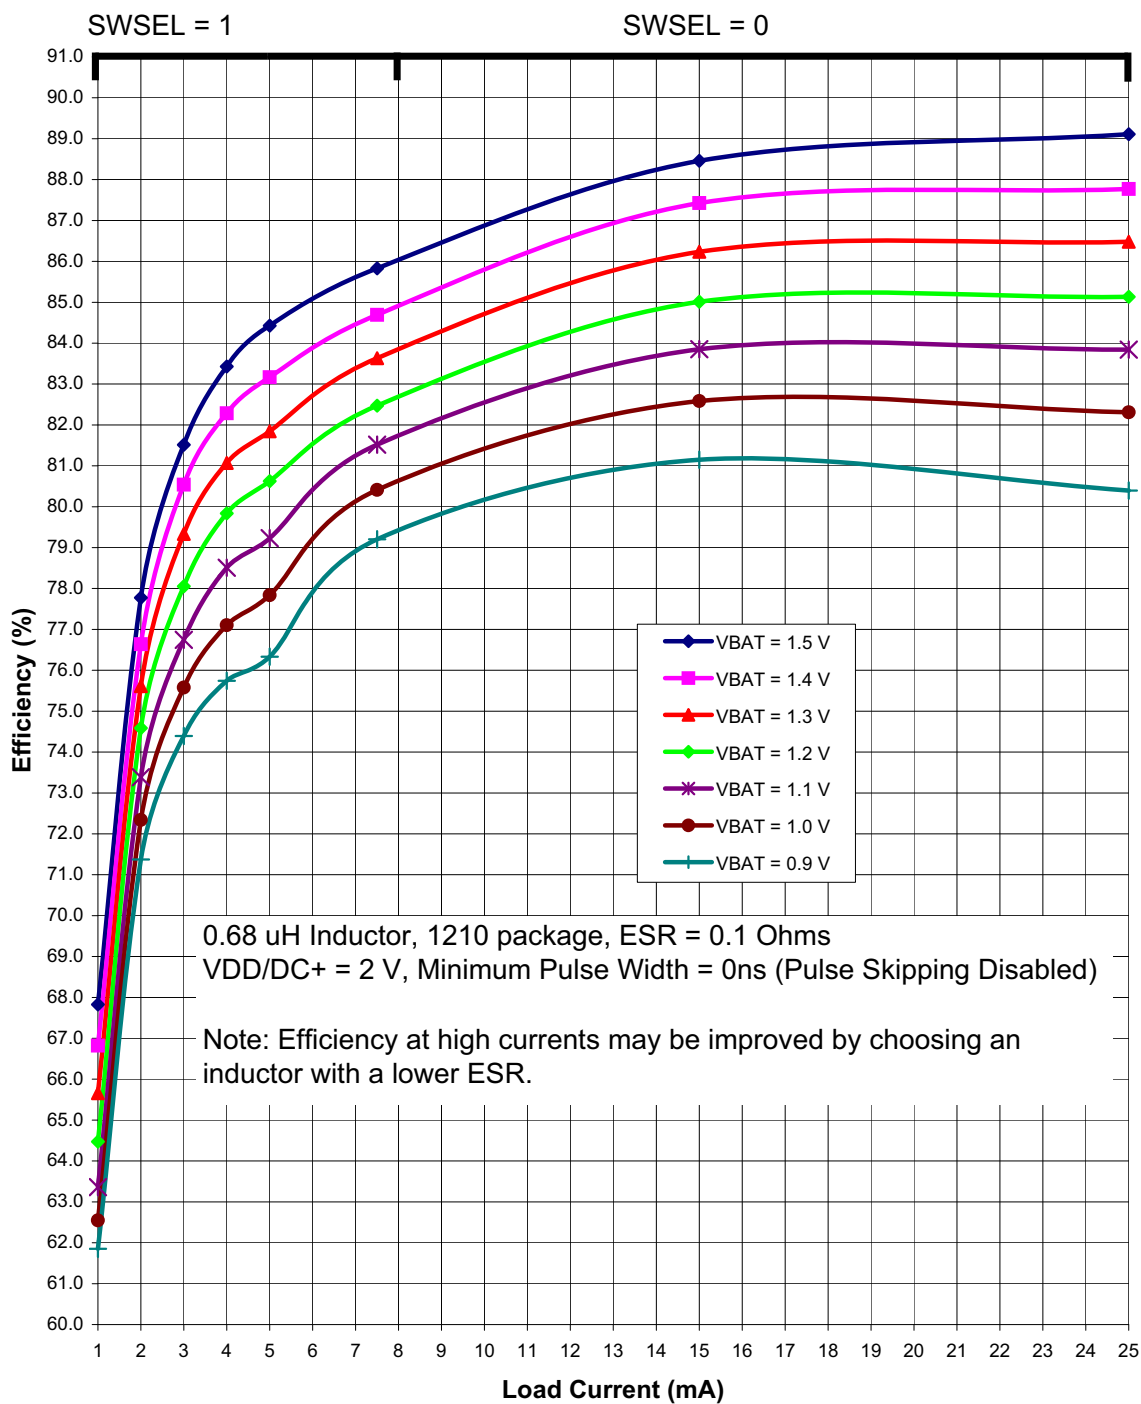
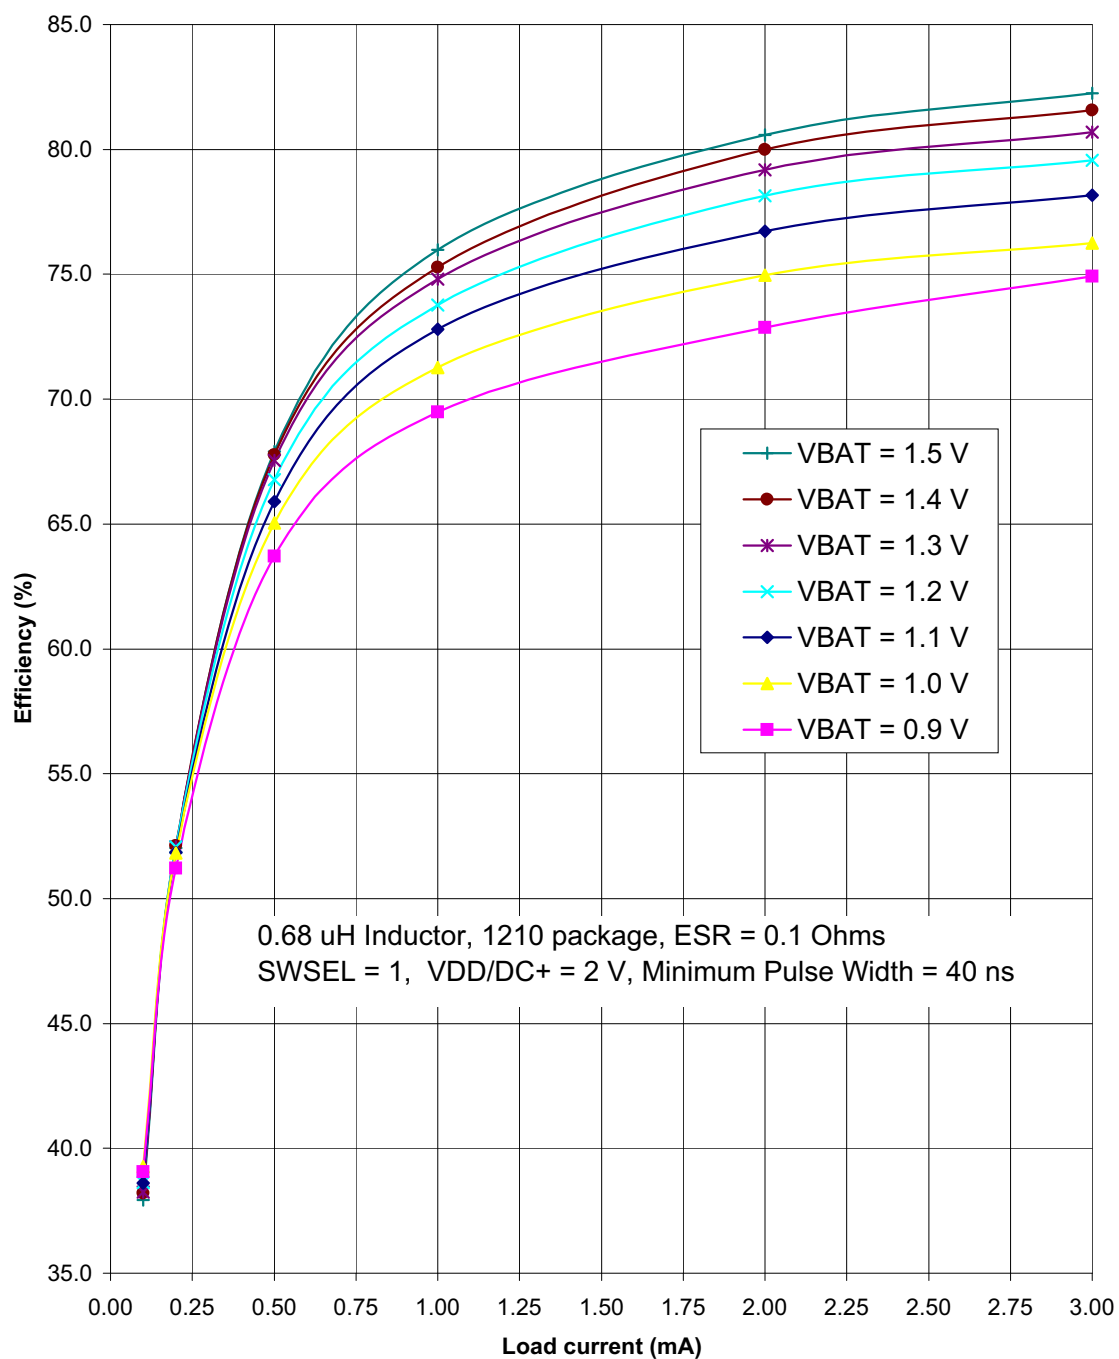

Figure 4.3. Typical DC-DC Converter Efficiency (High Current, VDD/DC+ = 2 V)
Figure 4.5. Typical DC-DC Converter Efficiency (Low Current, VDD/DC+ = 2 V)
Notes: - Based on device characterization data; Not production tested. - SYSCLK must be at least 32 kHz to enable debugging. - Digital Supply Current depends upon the particular code being executed. The values in this table are obtained with the CPU executing an "sjmp \$" loop, which is the compiled form of a while(1) loop in C. One iteration requires 3 CPU clock cycles, and the flash memory is read on each cycle. The supply current will vary slightly based on the physical location of the sjmp instruction and the number of flash address lines that toggle as a result. In the worst case, current can increase by up to 30% if the sjmp loop straddles a 128-byte flash address boundary (e.g., 0x007F to 0x0080). Real-world code with larger loops and longer linear sequences will have few transitions across the 128-byte address boundaries. - Includes oscillator and regulator supply current. - IDD can be estimated for frequencies ≤ 10 MHz by simply multiplying the frequency of interest by the frequency sensitivity number for that range, then adding an offset of 90 μA. When using these numbers to estimate I_{DD} for >10 MHz, the estimate should be the current at 25 MHz minus the difference in current indicated by the frequency sensitivity number. For example: $V_{DD} = 3.0$ V; $F = 20$ MHz, $I_{DD} = 4.1$ mA – $(25 \text{ MHz} - 20 \text{ MHz}) \times 0.120 \text{ mA/MHz} = 3.5$ mA. - The Supply Voltage is the voltage at the VDD_MCU pin, typically 1.8 to 3.6 V (default = 1.9 V). Idle IDD can be estimated by taking the current at 25 MHz minus the difference in current indicated by the frequency sensitivity number. For example: $V_{DD} = 3.0$ V; $F = 5$ MHz, Idle $I_{DD} = 2.5$ mA – $(25 \text{ MHz} - 5 \text{ MHz}) \times 0.095 \text{ mA/MHz} = 0.6$ mA. - The supply current specifications in Table 4.2 are for two cell mode. The VBAT current in one-cell mode can be estimated using the following equation: $\text{VBAT Current (one-cell mode)} = \frac{\text{Supply Voltage} \times \text{Supply Current (two-cell mode)}}{\text{DC-DC Converter Efficiency} \times \text{VBAT Voltage}}$ The VBAT Voltage is the voltage at the VBAT pin, typically 0.9 to 1.8 V. The Supply Current (two-cell mode) is the data sheet specification for supply current. The Supply Voltage is the voltage at the VDD/DC+ pin, typically 1.8 to 3.3 V (default = 1.9 V). The DC-DC Converter Efficiency can be estimated using Figure 4.3–Figure 4.5. - The EZRadioPRO peripheral is placed in Shutdown mode.